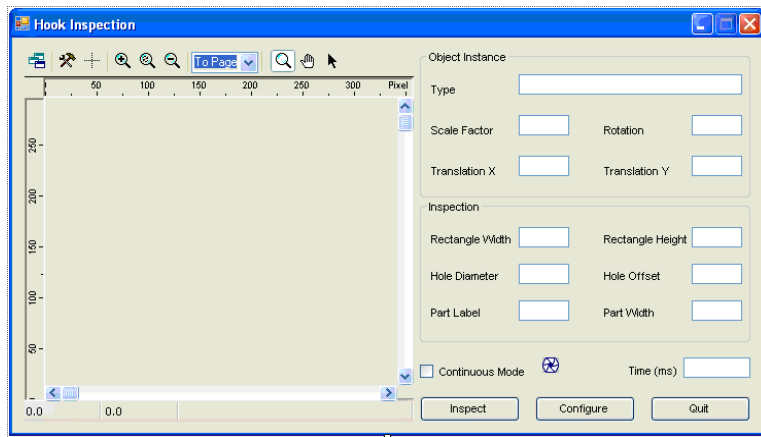

Figure 41 VB .NET Form for Tutorial 6
1. On your application form, add one text box. Name it **PartWidthText** and add an appropriate label. Set up your form as illustrated in Figure 41.